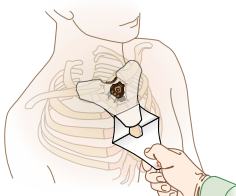

FIGURE 6
10. **Holding the sternal locator in place, pull tab 2 to expose the adhesive on the bottom half of the sternal locator.** (See Figure 6)